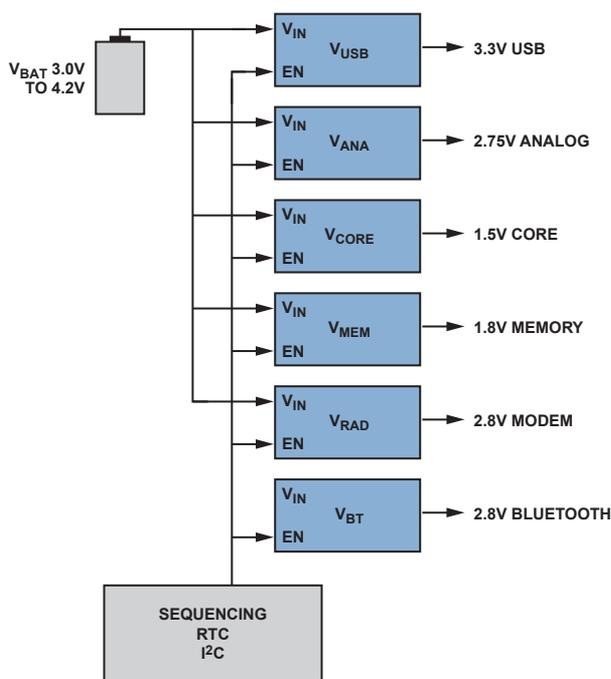

Figure 2. Typical power domains in a portable system.
**Circuit Features Enhance LDO Performance.** An enable input permits external control of LDO turn-on and turn-off, allowing supplies to be sequenced in proper order in multi-rail systems. Soft-start limits inrush current and controls output-voltage rise time during power-up. A sleep state minimizes power drain, especially useful in battery-based systems, while allowing fast turn-on. Thermal shutdown turns the LDO off if its temperature exceeds the specified value. Over-current protection limits the LDO's output current and power dissipation. Under-voltage lockout disables the output when the supply voltage is below the specified minimum value. Figure 2 shows a simplified typical power system for portable designs.